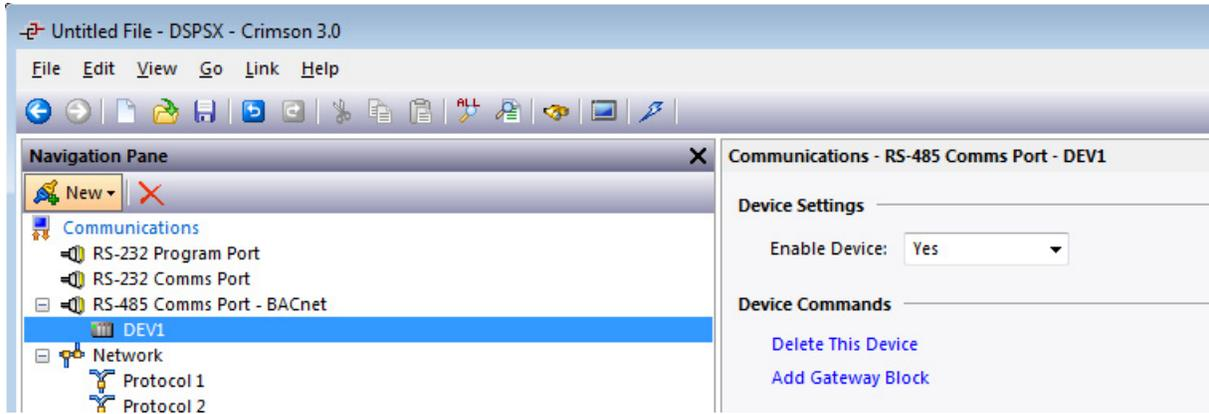

Figure 7.
17. Referring to Figure 7, go to the Navigation Pane and click on the device below the port; *DEV 1* in this example.